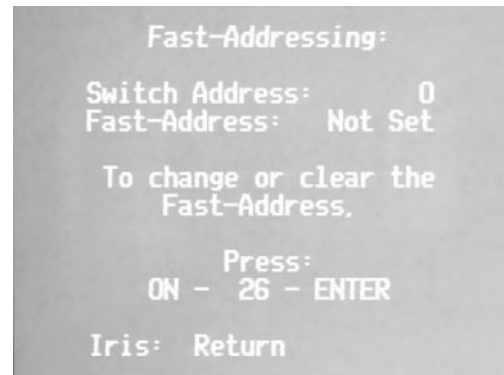

Figure FA1
2. Press **ON-999-ENTER**. The screen shown in FIGURE FA1 is displayed.
- Any camera without a *Fast Address* will display the screen in FIGURE FA1 when the **ON-999-ENTER** is used. Make sure you are viewing the camera that you want to program.